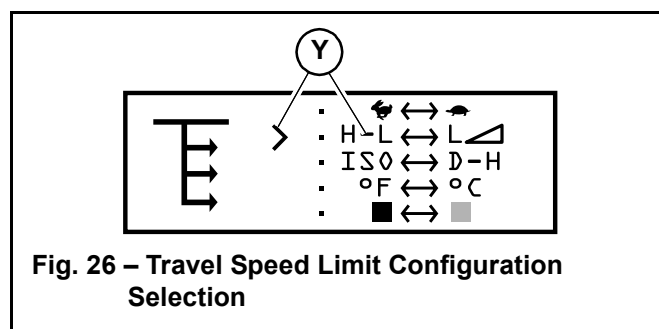

Fig. 26 – Travel Speed Limit Configuration Selection
2. Press and release the interface button until the selection caret points to the travel speed limit configuration selection (Y, Fig 26). Press and hold the interface button for 5 seconds.